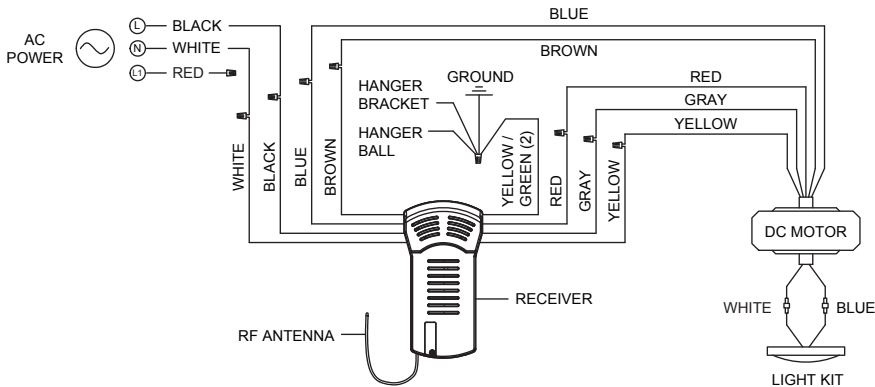

Figure 4
- ☐ 3. Connect wires using connectors as shown in Figure 4.